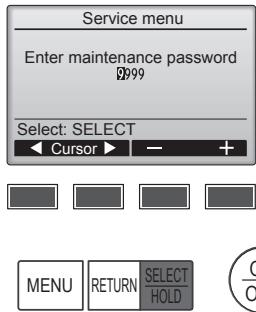

Fig. 7-2
① Select “Service” from the Main menu, and press the [SELECT/HOLD] button.
② When the Service menu is selected, a window will appear asking for the password. (Fig. 7-2)